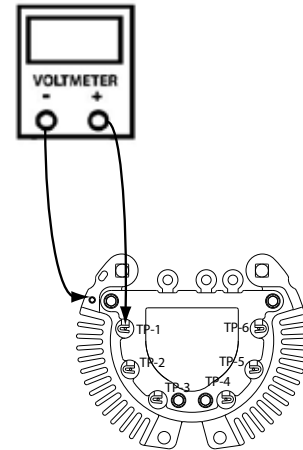

Fig 3
Step 4: Connect positive test lead (+) to diode post (TP 1) and negative test lead (-) to rectifier heatsink. Move the positive test lead (+) to (TP-2), (TP-3), (TP-4), (TP-5) and (TP-6). Record readings at all six TP locations. See Fig 3.